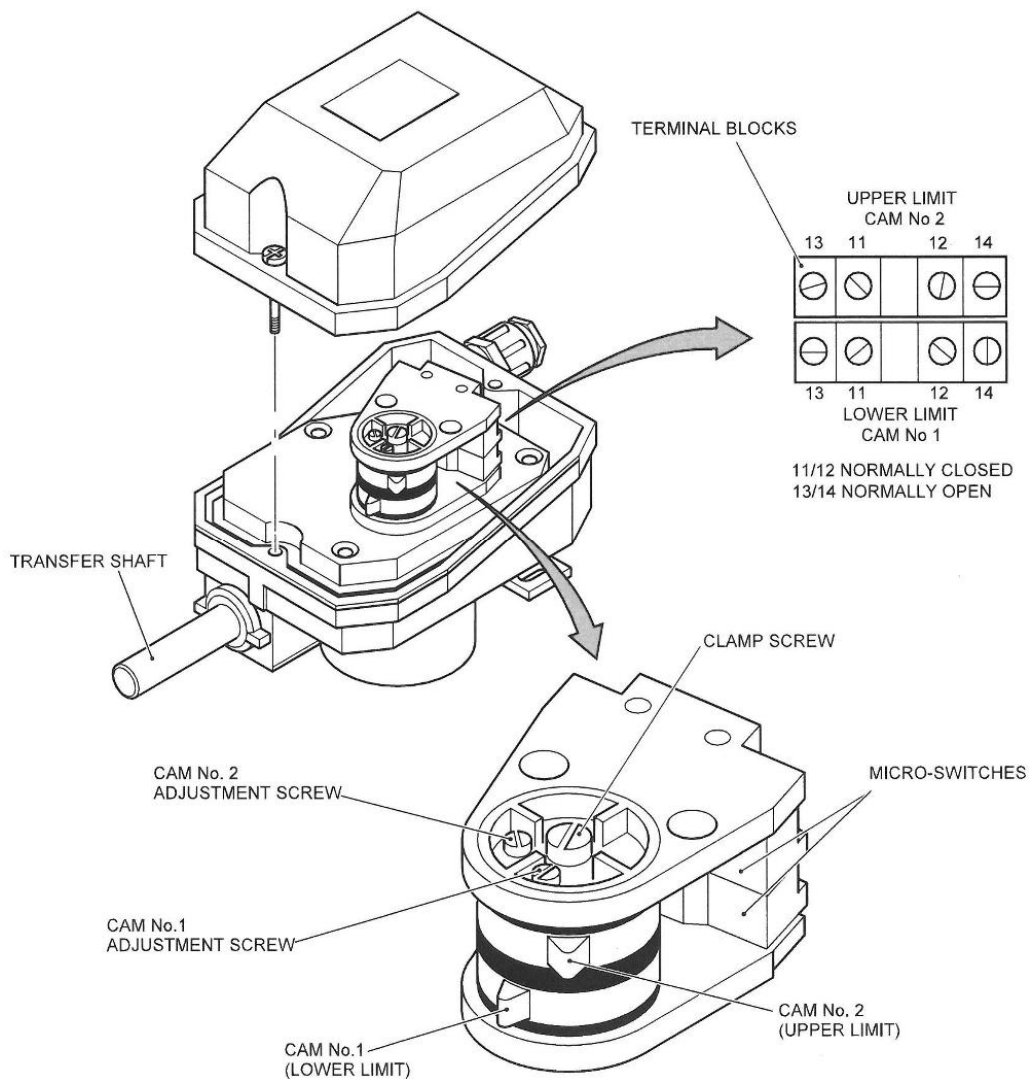

Figure 9 – Setting the Upper Limit Switch – Rotary Limit Switch
- Remove the plastic cover from the rotary limit switch to gain access to the 'cam adjustment screw 2' which is for the upper limit adjustment (see Figure 9).
- Remove the plastic cover from the rotary limit switch to gain access to the 'cam adjustment screw 1' which is for the lower limit adjustment (see Figure 9).